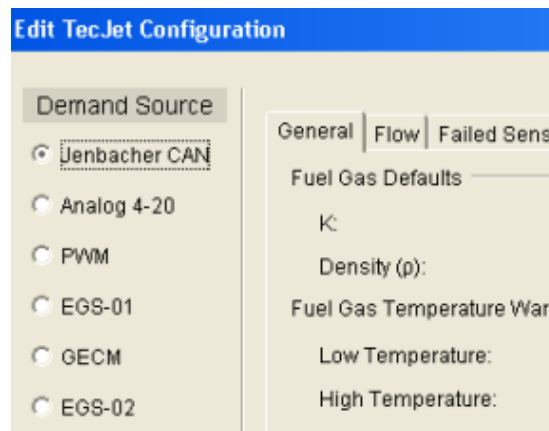

Figure 5-8. Edit TecJet Configuration, Demand Source
- Edit TecJet Configuration, Demand Source (Figure 5-8)
This opens an Edit TecJet Configuration screen, (e.g., Figure 5-8), to permit driver configuration setting changes. The configuration settings are provided in a common area of the Edit TecJet Configuration screen and on several tabbed screens.